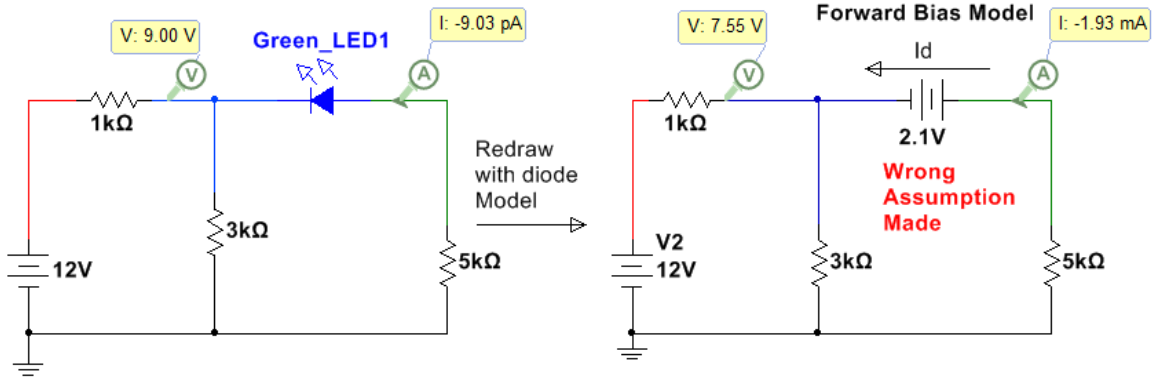

Figure 6.7: Circuit for Example 6.4 with the **wrong assumption made**.
- Solving this matrix yields  $I_2 = 1.93 \text{ mA}$  (clockwise).  $I_D = -I_2 = -1.93 \text{ mA}$  (This is verified in Multisim in Figure 6.7)
- **Note:** The probe values in the left circuit of Figure 6.7 with the green LED are way different because the wrong assumption was made.